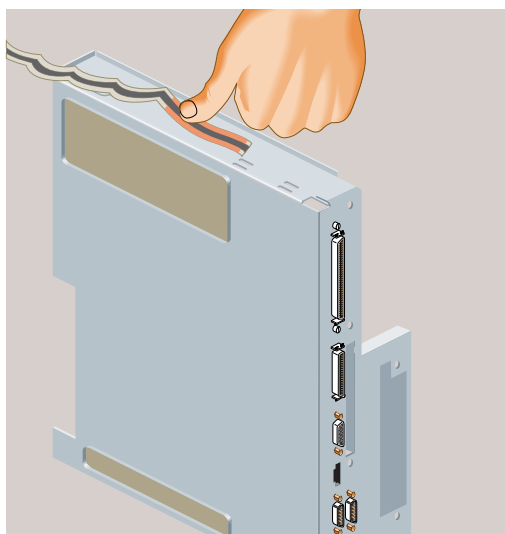

Figure 5-12 Attaching the Wrist Strap
5. Before touching any of the components, ground yourself to a metal part of the chassis. Attach the wrist strap to your wrist and to a metal part of the chassis (Figure 5-12).